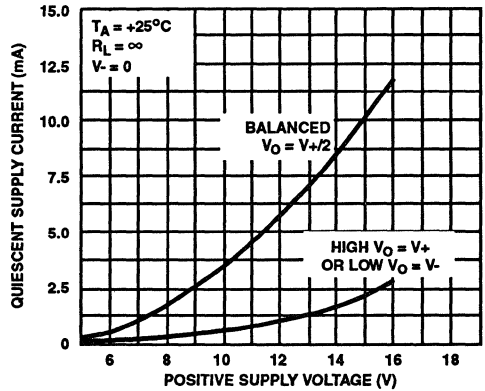

FIGURE 4. QUIESCENT SUPPLY CURRENT vs SUPPLY VOLTAGE
Single supply operation: Initially, let it be assumed that the value of R_L is very high (or disconnected), and that the input-terminal bias (Terminals 2 and 3) is such that the output-terminal (No. 6) voltage is at $V+/2$, i.e., the voltage-drops across Q8 and Q12 are of equal magnitude. Figure 4 shows typical quiescent supply-current vs. supply voltage for the CA3160 operated under these conditions.
a corresponding reduction in supply-current. In the extreme case, e.g., with Terminal 8 swung down to ground potential (or tied to ground), NMOS transistor Q12 is completely cut off and the supply current to series connected transistors Q8, Q12 goes essentially to zero. The two preceding stages in the CA3160, however, continue to draw modest supply-current (see the lower curve in Figure 4) even though the output stage is strobed off. Figure 12(A) shows a dual-supply arrangement for the output stage that can also be strobed off, assuming $R_L = \infty$, by pulling the potential of Terminal 8 down to that of Terminal 4.